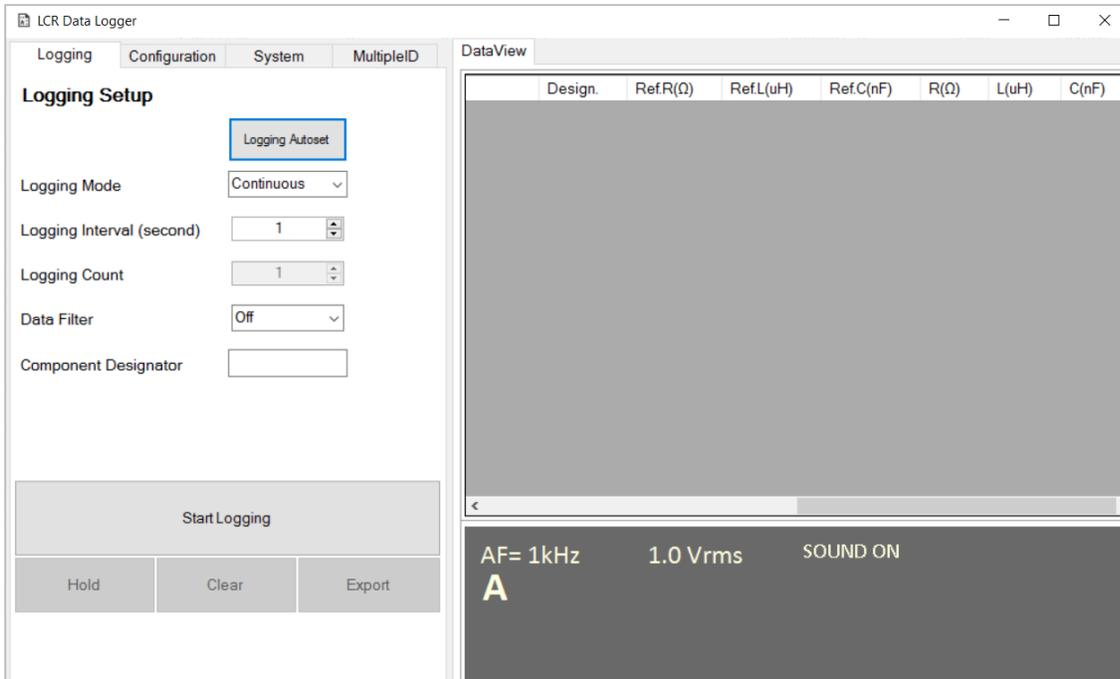

Figure 3-3: Message that Device is Connected
- The LCR Data Logger software will connect to the LCR Pro1 automatically. Once connected, you will see a duplicated device display from the bottom right on GUI as Figure 3-3 shows.